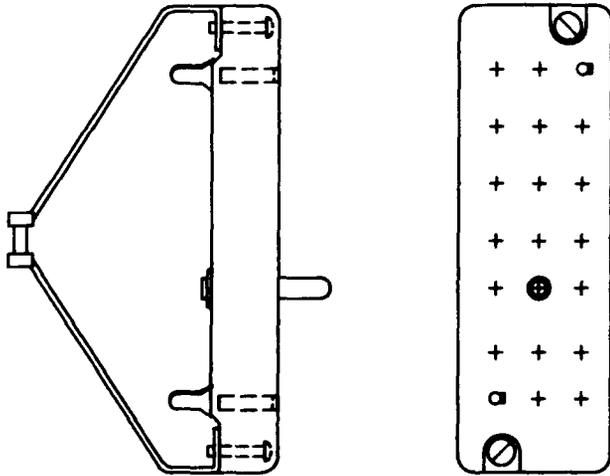

Fig. 3—KS-16344, L1 Through L4 Jack
2.03 **KS-16344, L1, L2, L3, and L4:** The KS-16344 jack (Fig. 3) is a molded-rectangular block equipped with 20 gold-plated phosphor-bronze floating terminals with a cable clamp attached. The jack mates with the KS-14160 connector. This jack is used in the 756A PBX (Private Branch Exchange) and in N and O Carrier Systems to facilitate the use of test probes for checking circuits.